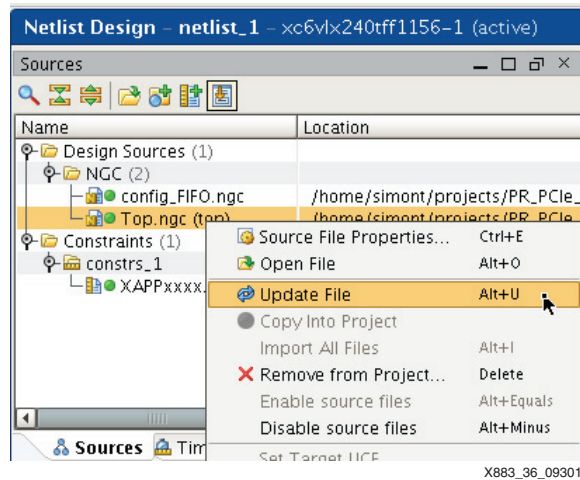

Figure 36: Update the Top-Level Netlist
8. If the static partition netlist is updated and the netlist is not copied into the project, the PlanAhead tool automatically updates it. Otherwise, right-click the top-level netlist in the Sources frame and select **Update File** to refresh the netlist (see Figure 36).